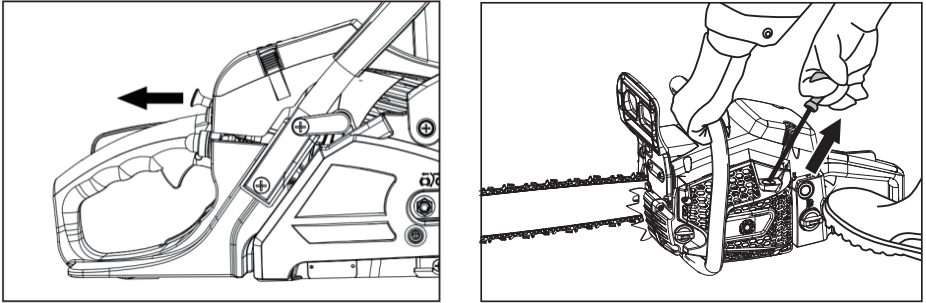

Figure 6
- Hold the tool firmly against the ground (see Figure 6).
Alternatively, place the tool on the right side of the body, holding the handle firmly with the right hand, and use the left hand to pull the starter rope (see Figure 6).